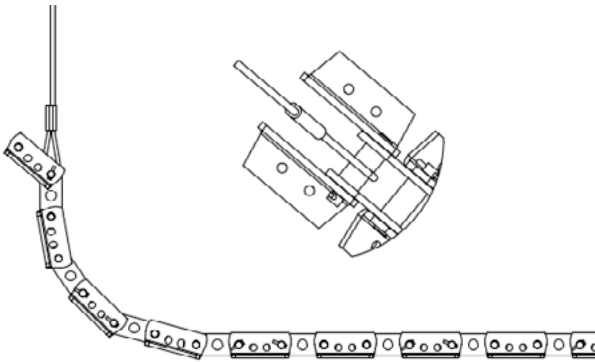

Figure 1. Rigging and Lifting Chain
Always connect rigging around a chain bushing, close to one end of the chain segment or assembly to be lifted. *See Figure 1.*
**STOP** Always lift chain with the chain joints parallel to the ground as shown. *See Figure 1.*